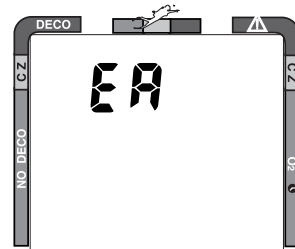

Fig. 26 - EA Mode
- press Advance (Upper) button to 'bypass EA Mode' (Fig. 26) and revert to Surface Mode